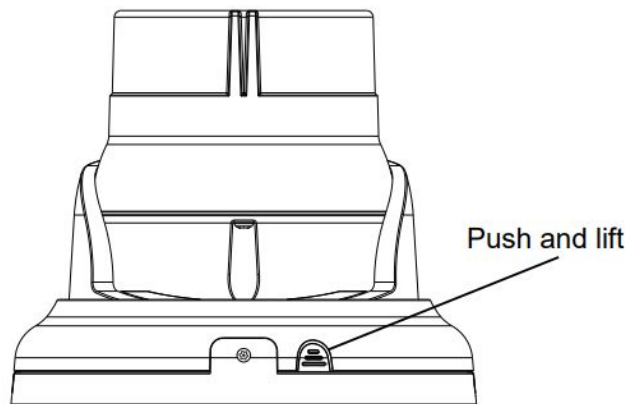

Figure 1-2
Step 2 Press on location shown in Figure 1-2 and then lift, to remove vanity ring and expose mounting holes.